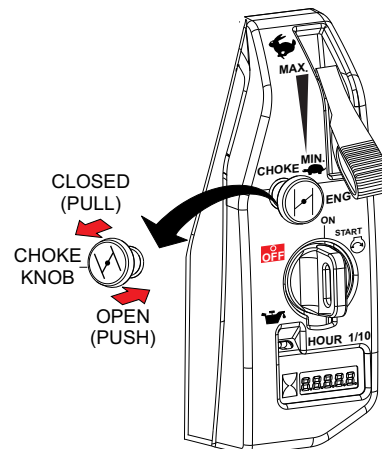

Figure 14. Engine Choke Lever
3. If starting a cold engine, **pull** the choke lever outward (Figure 14) to the **CLOSED** position.
4. If starting a warm engine or the temperature is warm, **push** the choke lever inward (Figure 14) to the **OPEN** position.
- Before operating, place the choke lever (Figure 14) in the **OPEN** position.